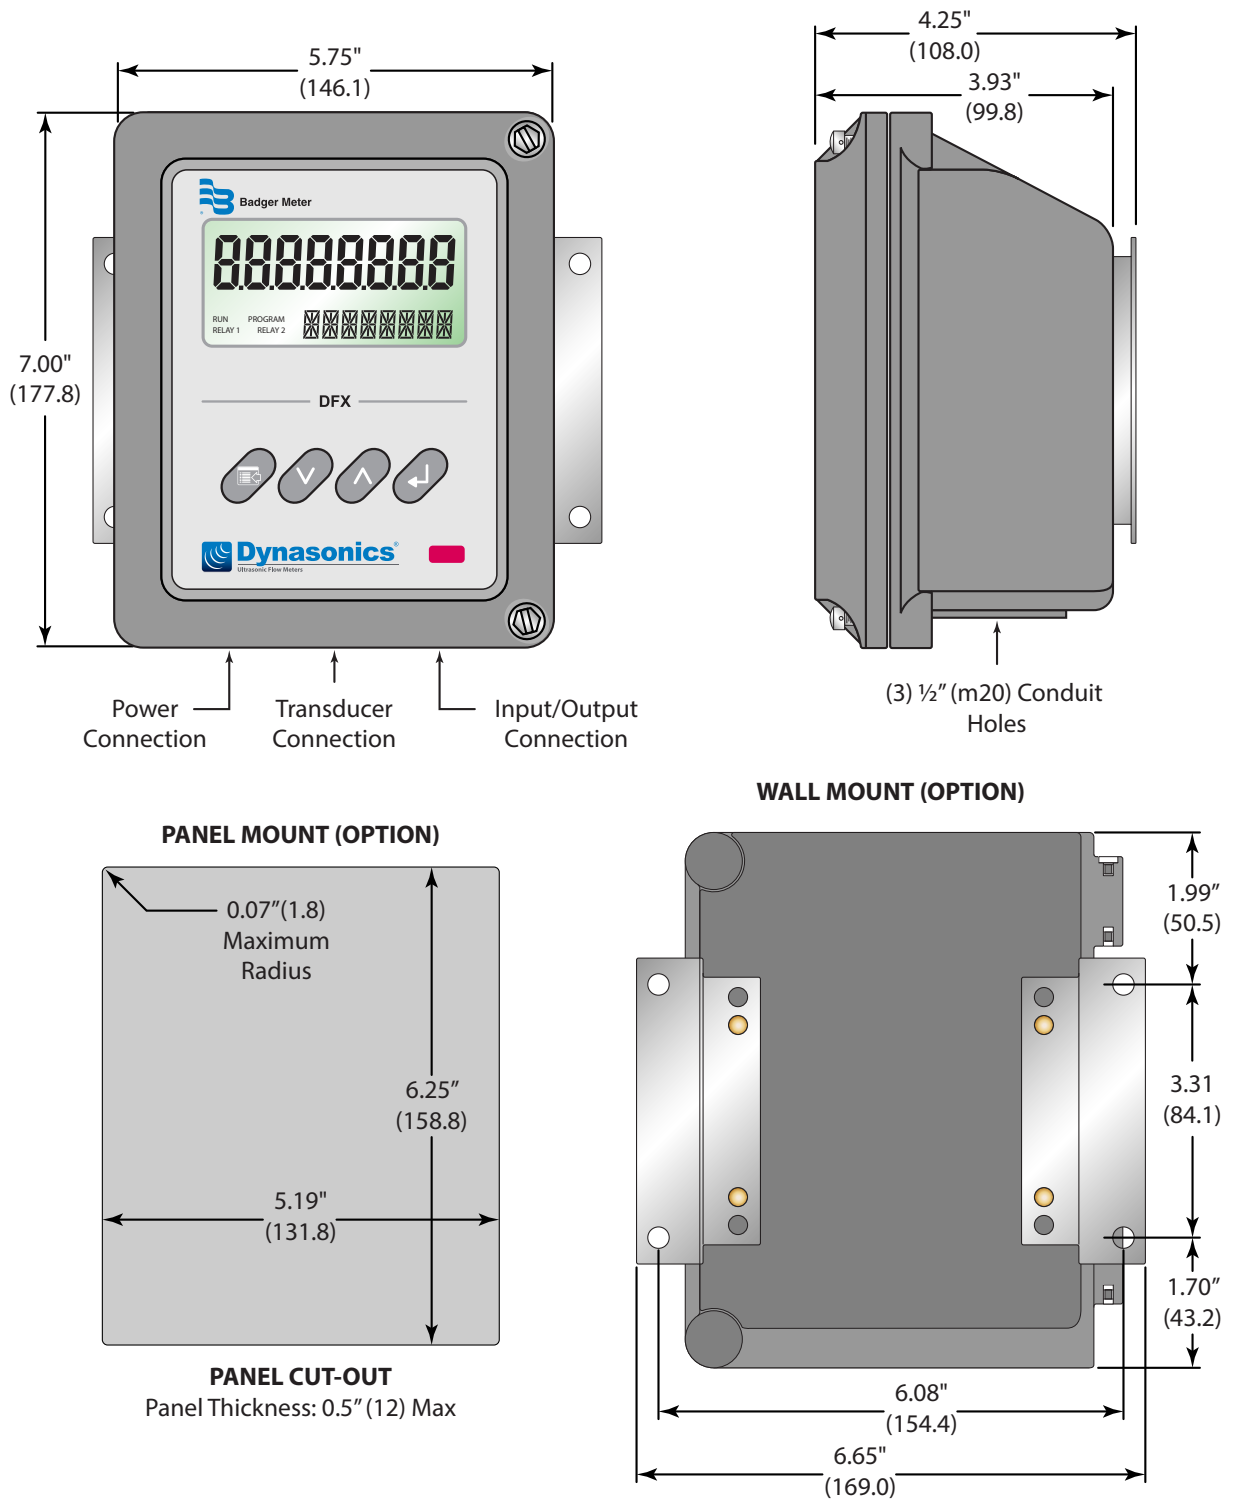

Figure 12: DFX transmitter installation dimensions
3. See Figure 12 for enclosure and mounting dimension details. Make sure there is enough room for door swing, maintenance and conduit entrances. Secure the enclosure to a flat surface with four appropriate fasteners.